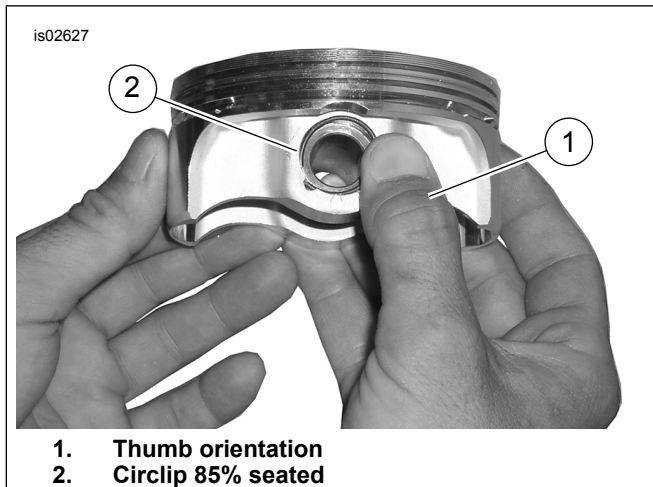

Figure 4. Install Circlip
2. See Figure 4. Position your thumb (1) as shown, and press firmly until approximately 85% of the circlip (2) is seated in the groove.